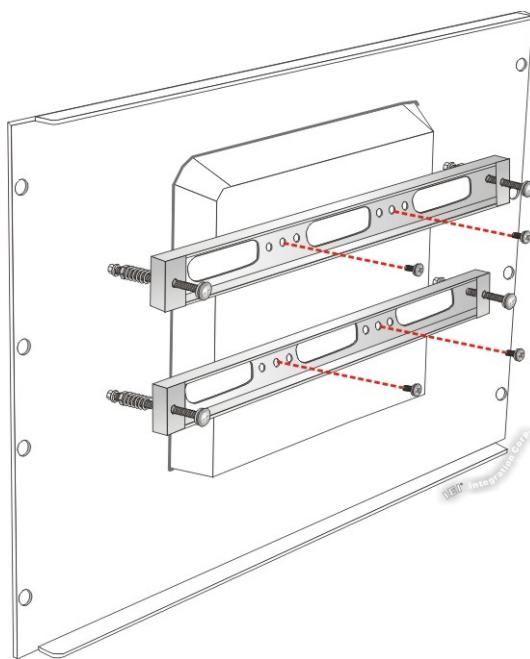

Figure 3-17: Securing Rack Mounting Brackets
Step 5: Secure the two rack mounting brackets to the rear of the panel PC by inserting the four retention screws into the VESA mounting holes and tightening them (Figure 3-17).